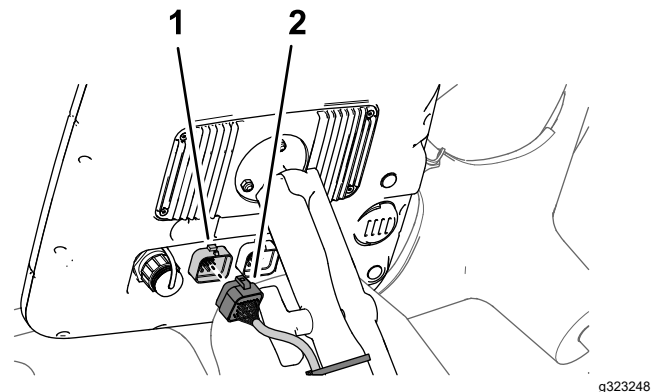

Figure 14
4. Align the 26-socket connector of the data harness branch with the 26-pin connector of the sprayer monitor and press the socket connector into the pin connector until the connector latches securely (Figure 14).